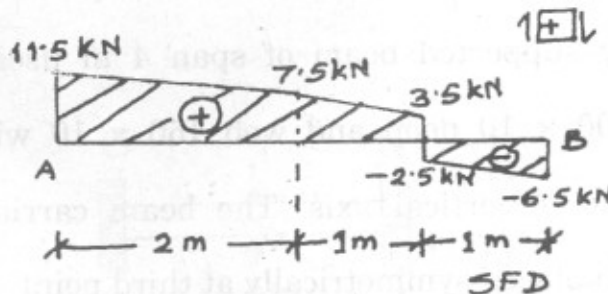

Fig. 2
- (b) Draw loading diagram and BMD from SFD given in Fig. 2. The beam is a simply supported beam supported at A and B. There is no moment applied as loading. [8]